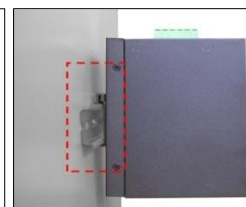

Figure 5
2. Lightly pull down the bracket on to the rail as shown below in *Figure 5*.